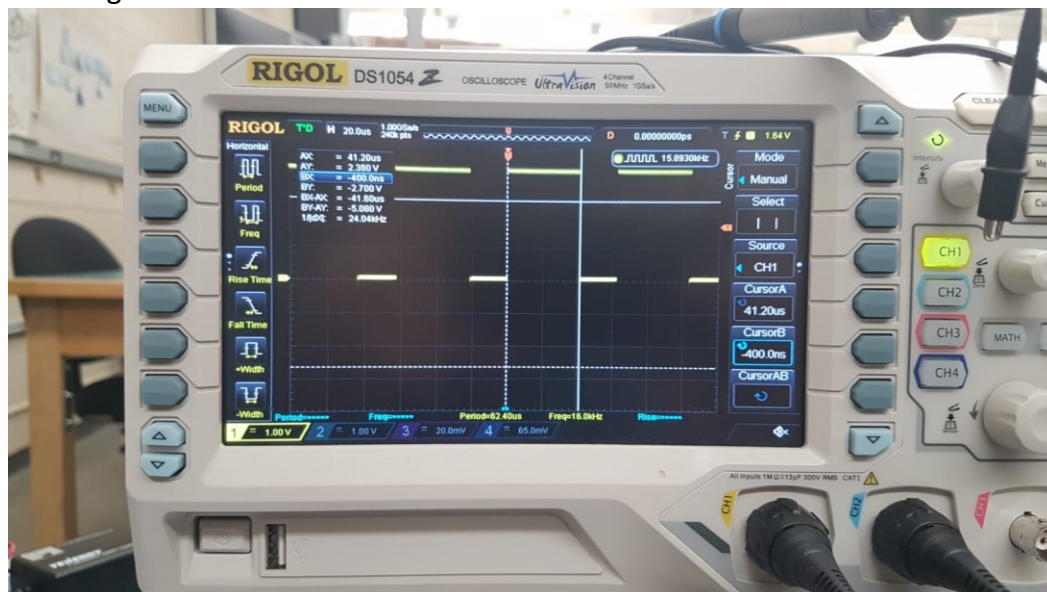

Figure 3 - Percent CPU utilization for the C2000 under normal operating conditions
- **CPU Utilization** – All HWI, SWI and TASKS set the idle pin high while the idle function sets the idle pin low. By measuring the percent time high of the idle pin in a given period, we can determine the CPU utilization. Through this process we determined that the CPU utilization was 65.8% (**Figure 3**).